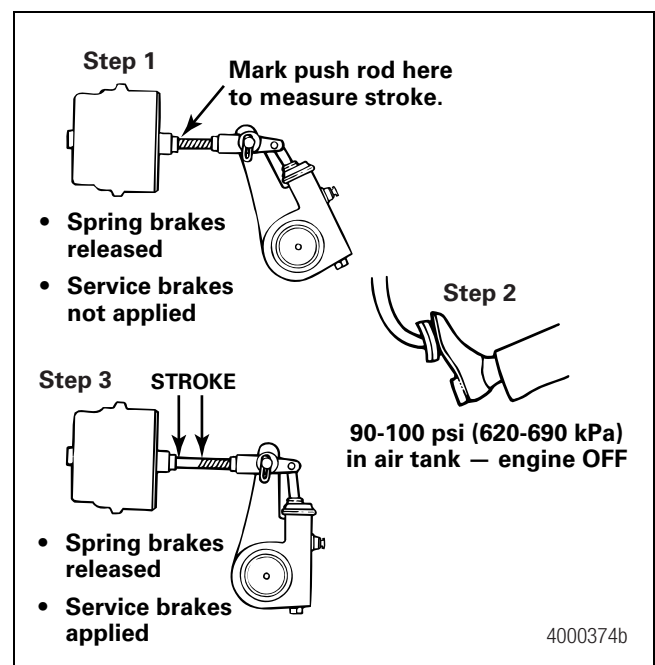

Figure 7.20
3. With the brakes released, mark the push rod where it exits the chamber. Measure and record the distance. Have another person apply and hold the brakes on full application. Figure 7.20. Hold the ruler parallel to the push rod and measure as carefully as possible. A measurement error can affect CVSA re-adjustment limits. CVSA states that "any brake 1/4-inch or more past the re-adjustment limit, or any two brakes less than 1/4-inch beyond the re-adjustment limit, will be cause for rejection."
4. Measure the push rod travel or adjusted chamber stroke from where the push rod exits the brake chamber to your mark on the push rod. Measure and record the distance. Figure 7.20.